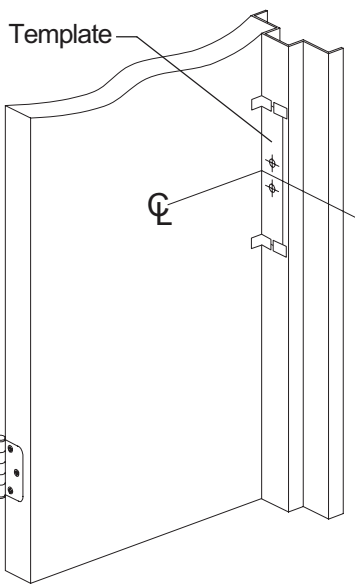

Figure 1-2. 299 or 299F Strike
1.2. For 299 or 299F strike: Tape strike template to frame aligned with center line \mathcal{C} as shown in Figure 1-2. Mark and prepare mounting holes per template.